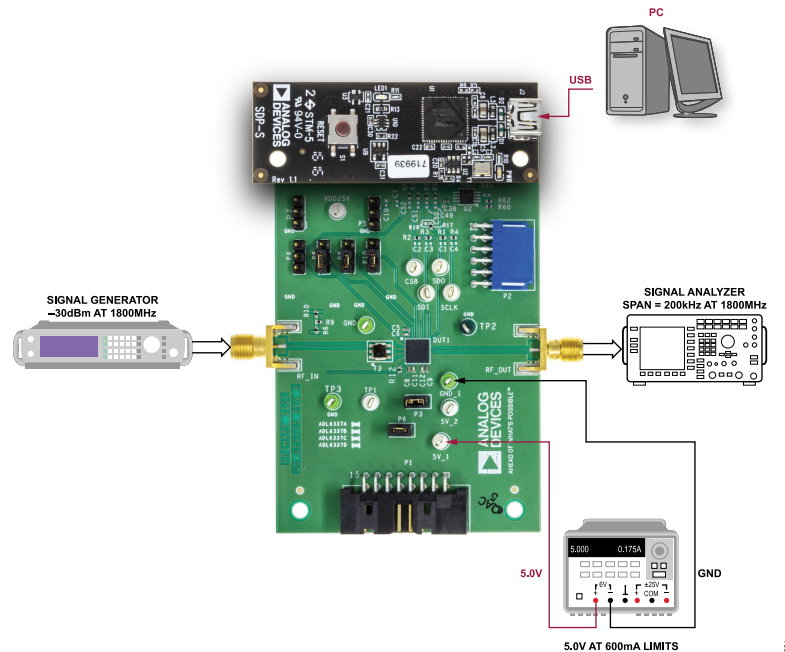
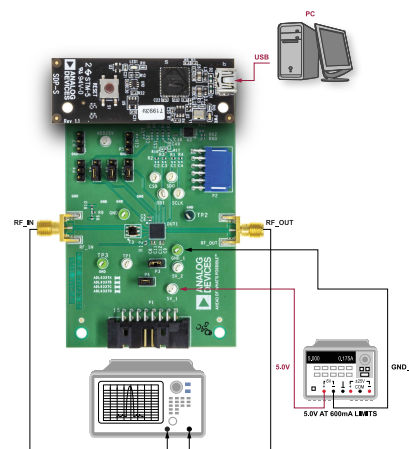

Figure 1. ADL6337-EVALZA/ADL6337-EVALZB Typical Measurement Setup (Option 1)
Figure 4. ADL6337-EVALZA/ADL6337-EVALZB Measurement Setup with Network Analyzer (Option 2)
Network Analyzer	Connect to one port on the network analyzer (see Figure 4)
Signal Generator	Set the source to -30 dBm output signal level. (see Figure 1)
Spectrum Analyzer	Connect to port (see Figure 1)
1. Configure the hardware according to the Hardware Setup section and shown in Figure 1 or Figure 4.